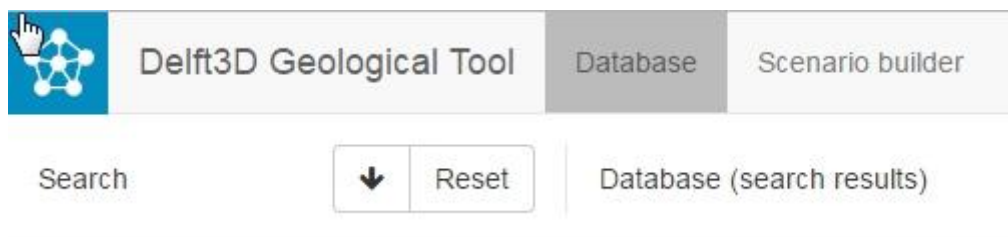

Figure 4.1 Upper part of the main page showing the icon to open the scenario builder
- Open the scenario builder by clicking on the scenario builder icon on the top of the main page (Figure 4.1)